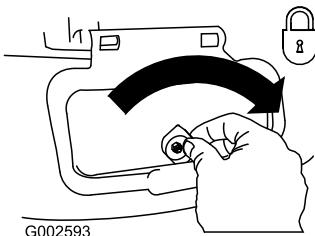

**Figure 29**
3. Install the side-discharge chute and close the door onto the chute (Figure 29).